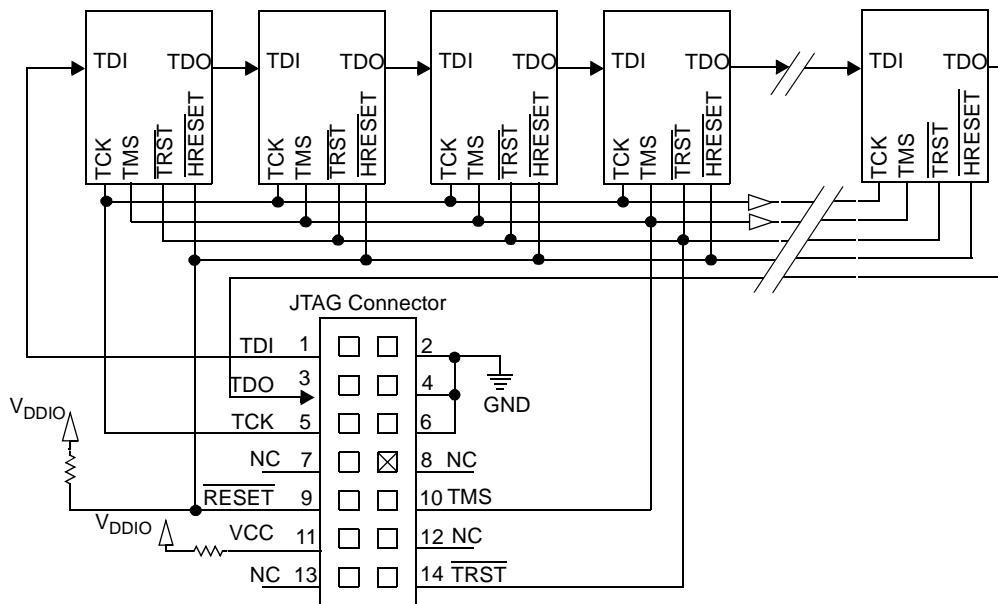
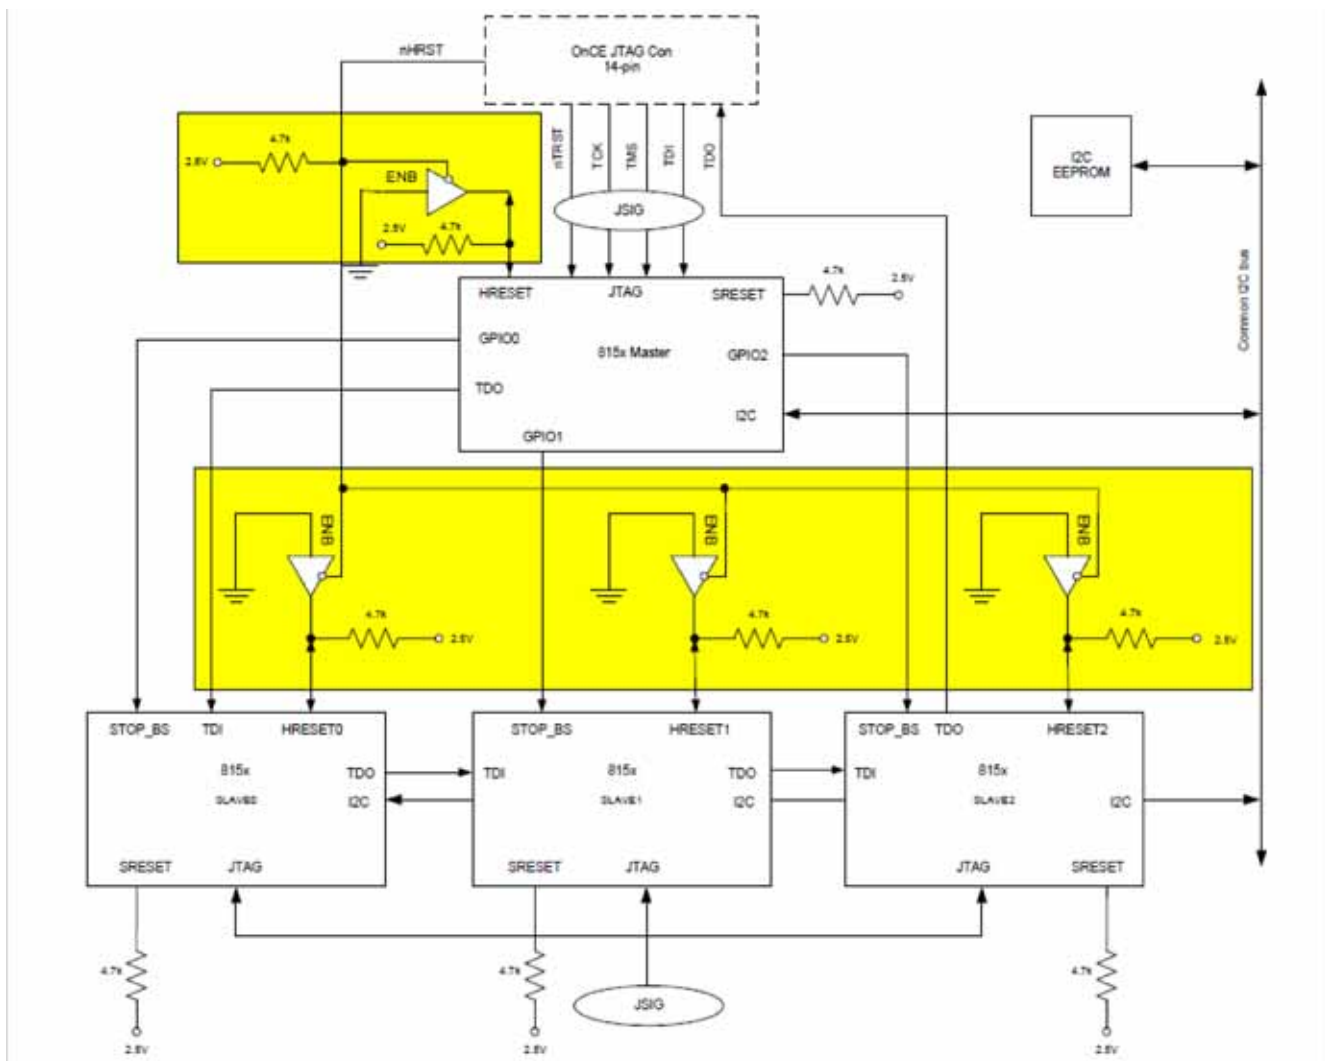

Figure 18. Multiple Target DSP Connection - Reset to All DSPs
Figure 19. Multiple Target DSP Connection - Reset to Individual DSP
- For debugging using the CodeWarrior USB TAP controller to connect to CodeWarrior for StarCore DSP, you must use the JTAG 14-pin connector. If using more than one MSC815x/MSC825x DSP, consider using a single JTAG connector with the DSPs connected in a JTAG chain, as shown in **Figure 18**.
- The V_{CC} pin (11) on the JTAG connector is sensed by the USB TAP to determine if power is applied to the target. This signal is also used as a voltage reference for the signals driven by the USB TAP probe (TDI, TCK, TMS, $\overline{\text{RESET}}$, and TRST). On the MSC8156ADS, the V_{CC} pin 11 is pulled up to V_{DDIO} using a $22\ \Omega$ current limited resistor.
- In **Figure 18**, all $\overline{\text{HRESET}}$ pins of the DSPs are connected to the $\overline{\text{RESET}}$ pin 9 of JTAG connector so that the debugger tool can assert $\overline{\text{HRESET}}$ to all DSPs at a time. In order to reset an individual DSP in a multiple DSP connection, the connection shown in **Figure 19** can be implemented. This connection scheme buffers the reset signals of the DSPs to allow an individual DSP to be reset without affecting the reset of the other DSPs.